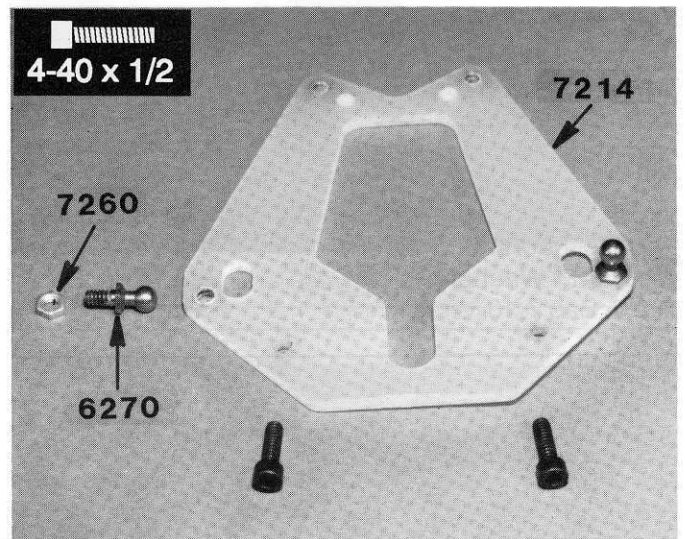

Fig. 12
□ **Figs. 12 & 13** From Bag 6-14 and 7-1, take the #7214 front shock strut and install two of the #6270 ball ends, with the short threads, into the strut in the locations shown. Tighten the ball ends, and then install and tighten two #7260 plain nuts on the ball end threads. With the two 4/40 x 1/2" screws, install the shock strut to the bulkhead as shown. It will be a lot quicker and easier to install the 4/40 screw with a #SP73 3/32 screwdriver handle allen wrench.